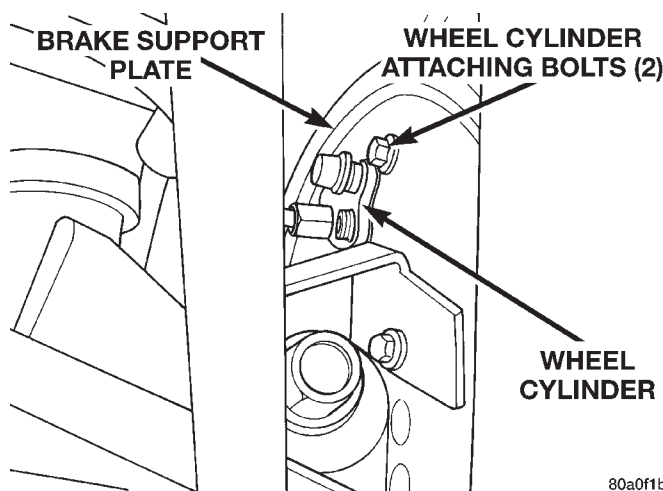

Fig. 77 Wheel Cylinder Attaching Bolts
(3) Remove rear wheel cylinder attaching bolts (Fig. 77). Then pull wheel cylinder assembly off brake support plate.
(2) Install wheel cylinder onto brake support plate. Tighten the attaching bolts (Fig. 77) to a torque of 13 N·m (115 in. lbs.).